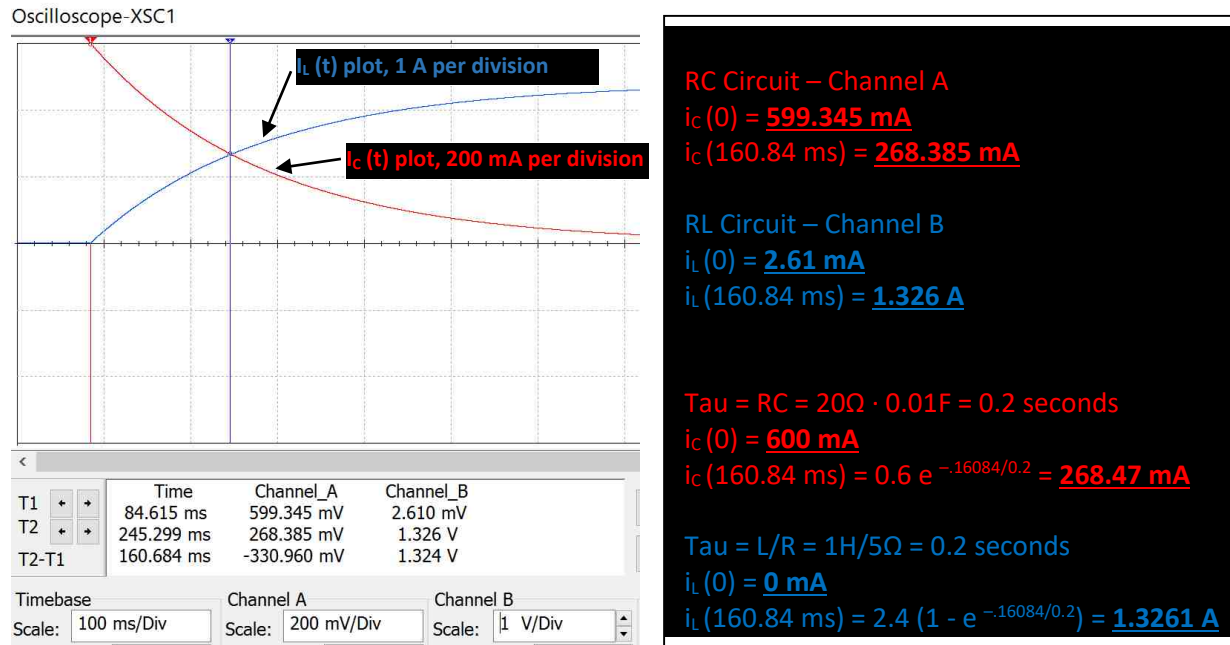
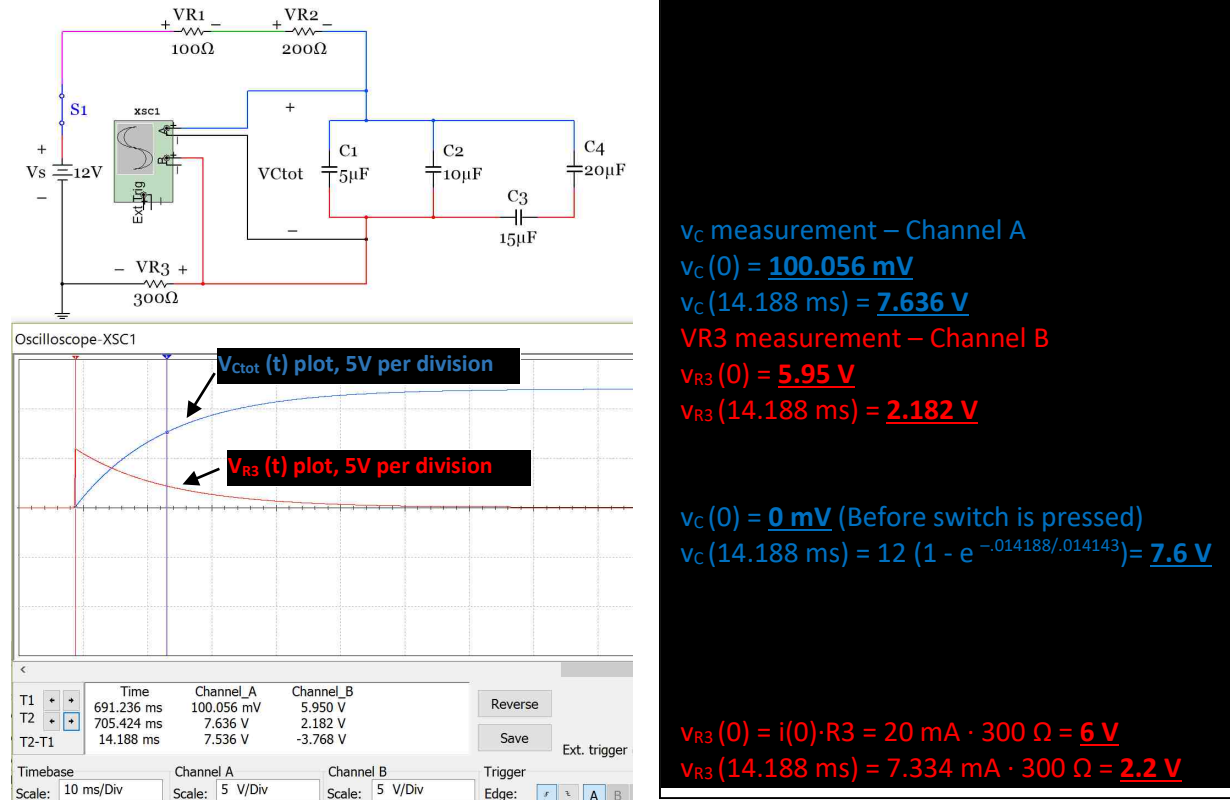

Figure 3.21: Multisim oscilloscope current measurements compared to calculations.
Figure 3.22: Circuit for Example 3.6 and the measurements and calculations that are required.
When dealing with circuit variables that are functions of time using the Multisim instantaneous probe values alongside the simulation time is not as accurate as using the Multisim oscilloscope that plots current and/or voltage versus time. The currents for the circuit in Figure 3.19 are plotted with a Multisim oscilloscope in Figure 3.20 and Figure 3.21. Additionally, the voltage across the capacitor and resistor for a different RC charging circuit is shown in Figure 3.22. The Multisim oscilloscopes will be used extensively for AC circuit analysis (in ENGR 2531), but they will only be used to help explain DC transient behavior of RC and RL circuits in this document. Making oscilloscope measurements in Multisim will allow for more control and provide much better accuracy when making measurements for DC transient analysis problems than using Multisim current and/or voltage probes and the Multisim simulation time. For those reasons the next three Figures are provided to demonstrate how to measure current and voltage with the Multisim oscilloscope.
**Note on Current Clamps:** The units on the Multisim scope are fixed to Volts and cannot be changed. However, since a current clamp was used with a 1 mV/mA conversion, the Volts (V) symbols can be assumed to be the same as Amps (A) symbol when looking at the scope since there is a one-to-one mapping between current and voltage using the 1mV/mA scale. If a node voltage wants to be plotted on the scope instead of current all that is needed is to delete the current clamps (labeled XCP1 and XCP2 in Figure 3.20) and wire the scope terminals directly to the nodes. Figure 3.22 shows how to measure and calculate the voltage across a capacitor network in an RC charging circuit.
Example 3.5) Use the Multisim oscilloscope cursors shown in Figure 3.21 to determine the initial currents in the RL and RC circuits in Figure 3.20 and the currents when the traces cross over each other. Perform calculations using equations 3.19 and 3.20 to verify that these numbers are accurate.
Example 3.6) In the circuit in Figure 3.22 determine the  $V_{Ctotal}$  and  $V_{R3}$  right after switch,  $S1$ , is closed ( $t = 0+$ ) and when the time reaches approximately 1 time constant. At 1 time constant the capacitor will reach approximately 2/3 its total charge ( $1 - e^{-t/\tau} = 1 - e^{-1} = .632$ ). The cursor on the scope plot below already has  $T2-T1$  placed as close to the time constant as possible. Perform calculations and compare the results with those obtained from the Multisim oscilloscope.